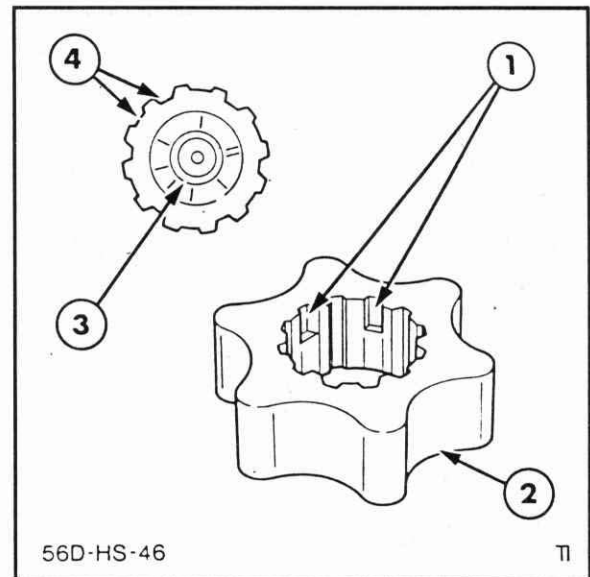

Figure 7-34
5. Check drive shaft spline and rotor spines for damage or wear Figure 7-34